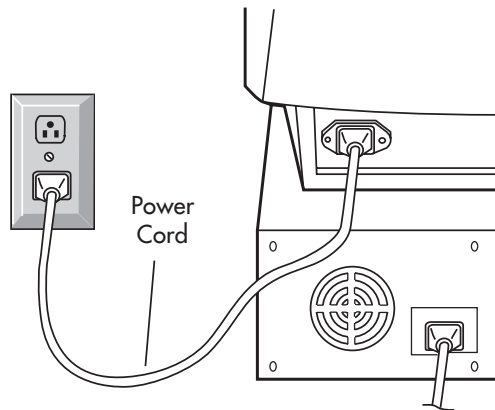

Figure C.1
5. Connect one end of the power cord to the MultiSync FP1375X monitor and the other end to the power outlet (**Figure C.1**).